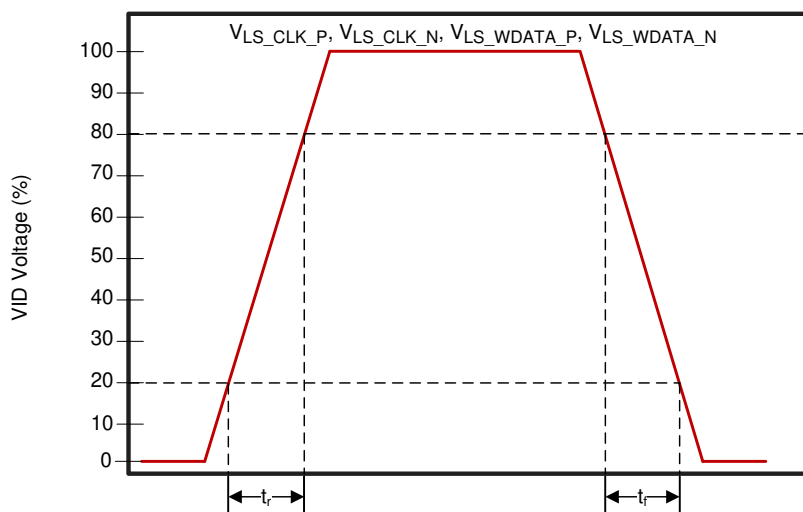

Figure 6-6. LSIF Rise, Fall Time Slew Rate
- (2) See Figure 6-6 for rise and fall time for LSIF.